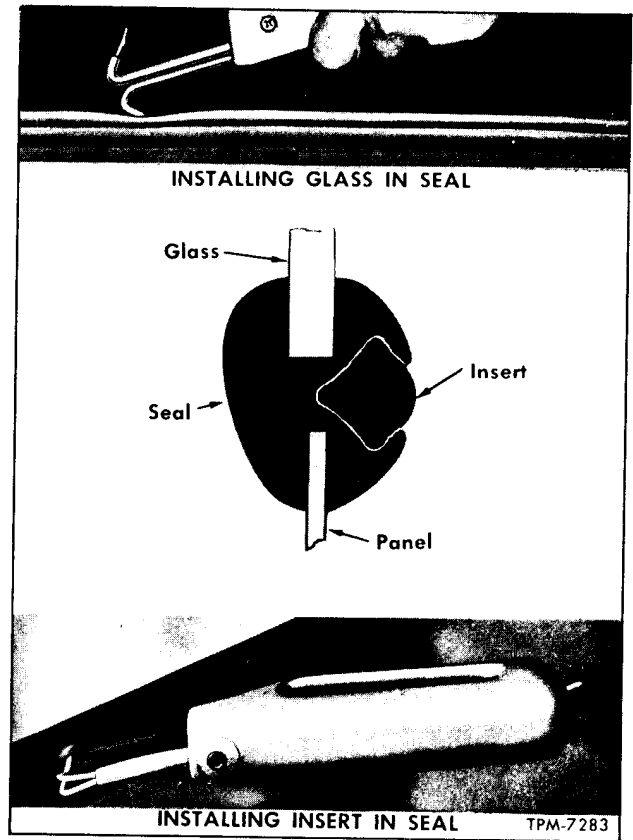

Figure 5—Insert-Retained Glass
Figure 5 shows several views of windshield glass installation. Use of special tools are recommended when installing components of windshield.
2. To install new glass, position glass into channel groove using tool J-2189 in manner shown in figure 5. If necessary, parafin or soap solution can be applied to rubber to facilitate installation. Using tool J-2189 install rubber insert into rubber channel groove to lock sash firmly in position. Cut insert ends, allowing sufficient overlap to secure a tight joint; then butt ends of seal into position.